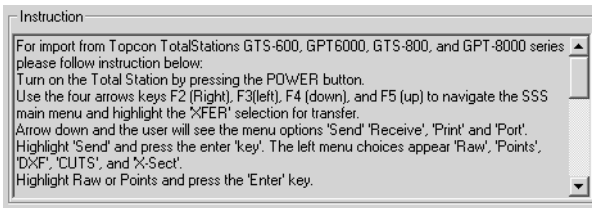

Figure 2-23. Total Station Instructions – Preparing for Import
- Follow all the steps given in the *Instruction* panel on the *Import from Device* dialog box (Figure 2-23) to prepare the Total Station for importing files. Select the file to import.